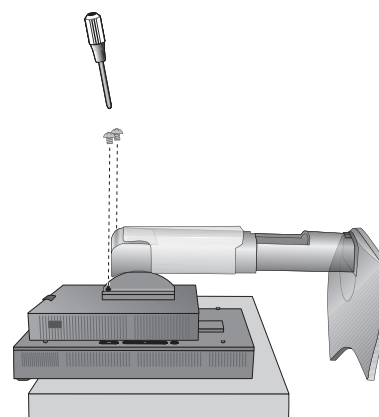

Figure S.3
9. Remove 2 top screws (**Figure S.3**).